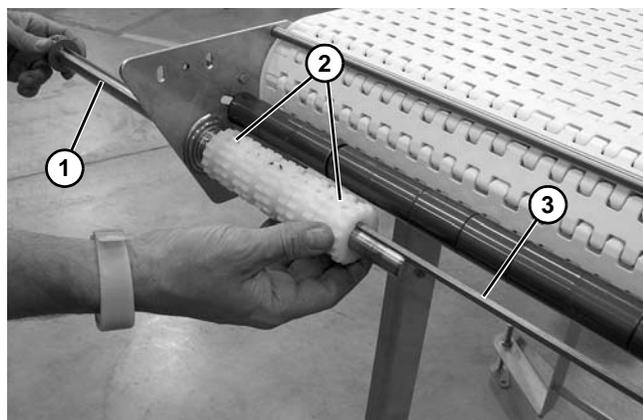

Figure 66
15. While removing drive shaft (**Figure 66, item 1**), slide drive sprockets (**Figure 66, item 2**) and shaft key (**Figure 66, item 3**) from shaft.